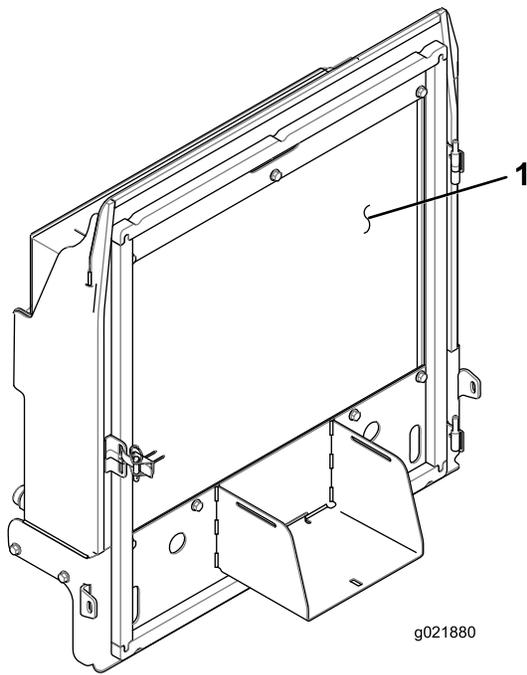

Figure 85
4. Thoroughly clean both sides of the radiator/oil cooler with compressed air (Figure 85).